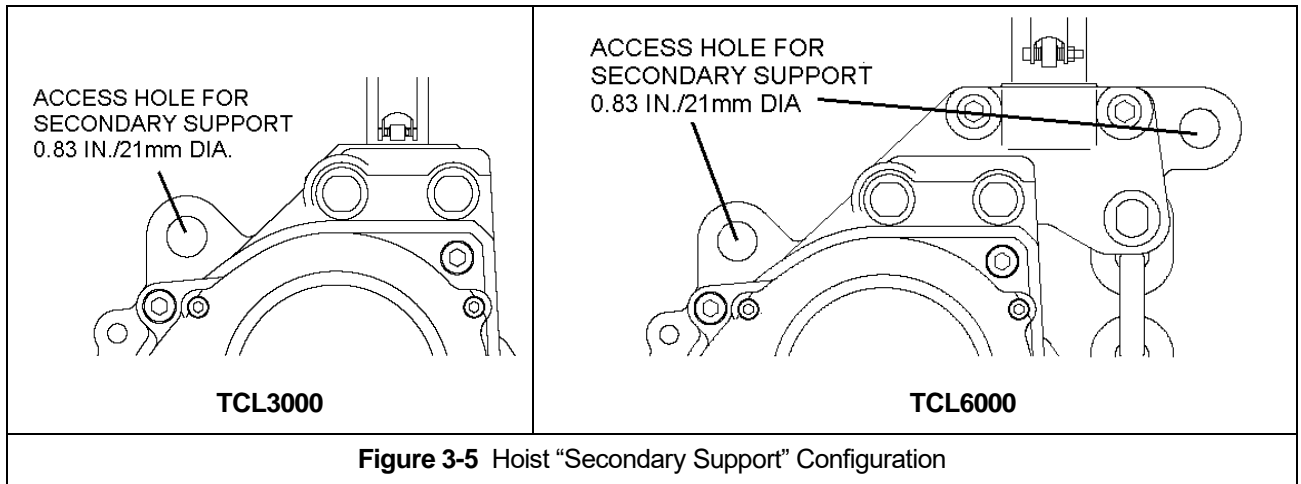

Figure 3-5 Hoist “Secondary Support” Configuration
- 3.8.1 For applications requiring a “Secondary Support” a support attachment location has been provided in the hoist Top Hook Yoke/Hoist Body. Reference Figure 3-5.